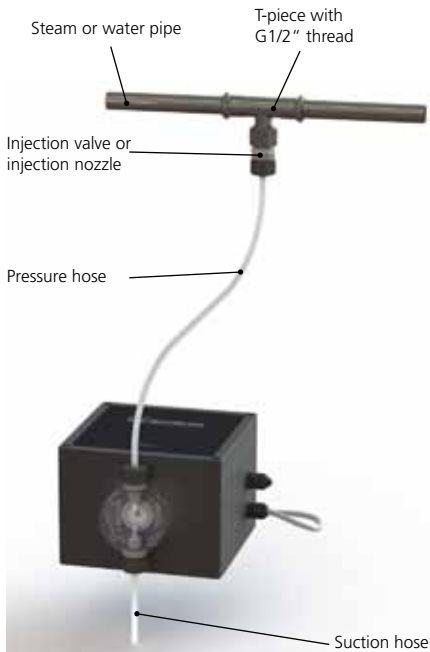

Figure 6: Pressure hose connection
1. A T-piece must be installed in the steam line of the steam generator or water line of the adventure shower (see Figure 6).
2. Screw the injection nozzle or the injection valve into the T-piece (Figure 6). Seal with Teflon tape if necessary.
11. Attach the pressure hose to the injection valve or injection nozzle (Figure 6).